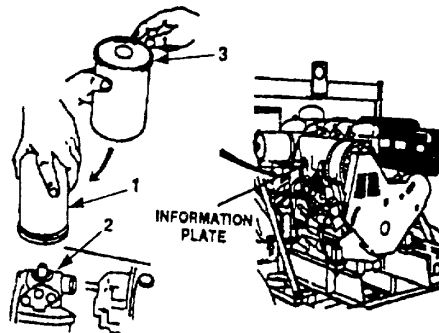

Figure 4-28. Fuel Filter Maintenance (All except Model 350 PAFN).
**4.10.18.1 Removal.** Refer to Figure 4-28 and proceed as follows:
- a. Unscrew expendable filter (1) and discard.
- b. Clean seat (2).
- c. Lightly oil rubber seal (3), then screw in new filter (1) until seated.
- d. Turn filter (1) a final half turn.